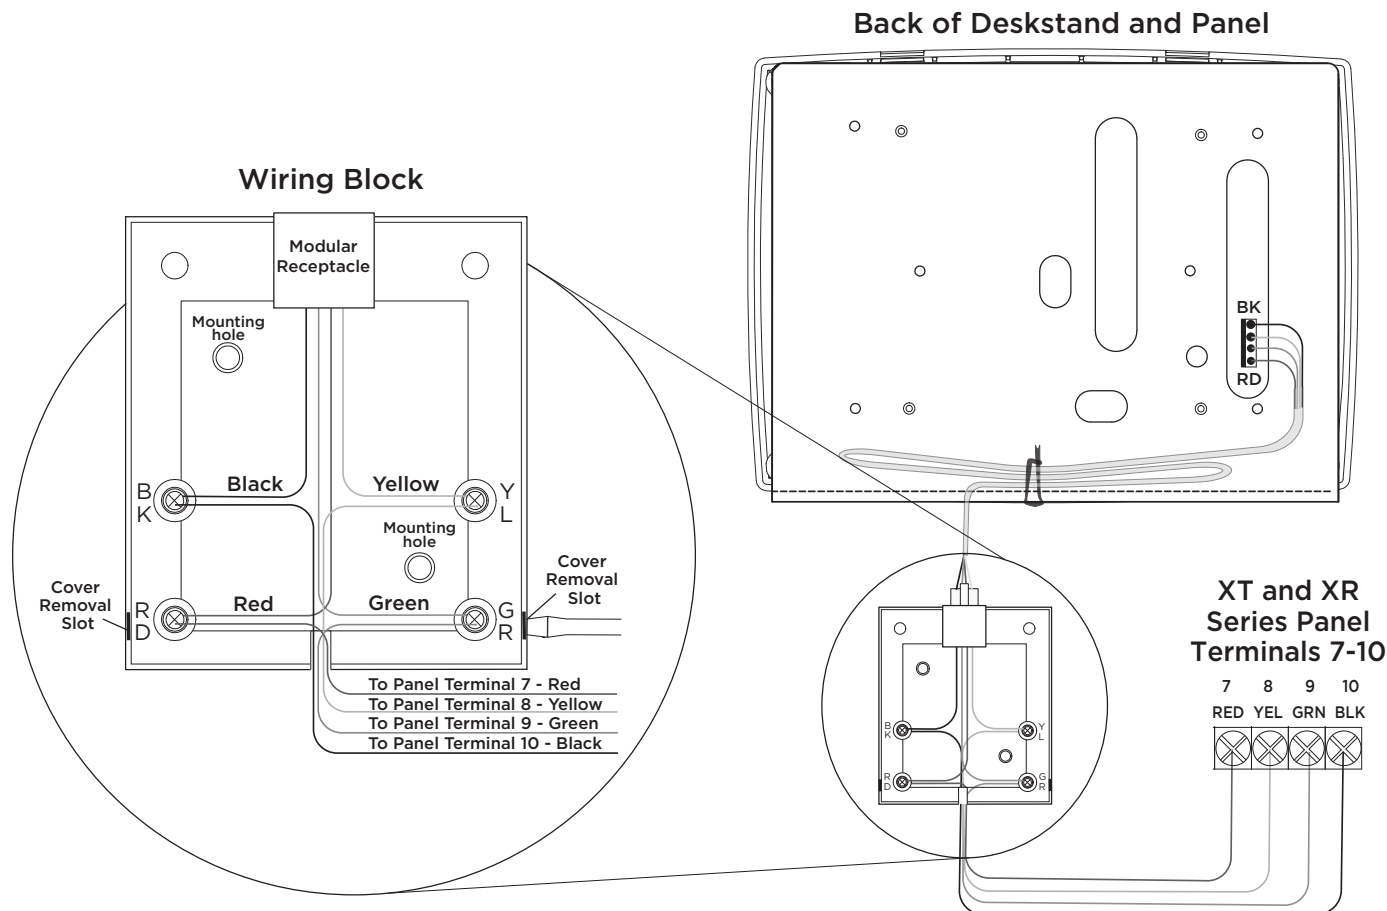

Figure 3: Panel to Keypad Wiring
3. Connect the red, yellow, green, and black wires from Panel Terminals 7, 8, 9, and 10 to the wiring block as shown in Figure 3.